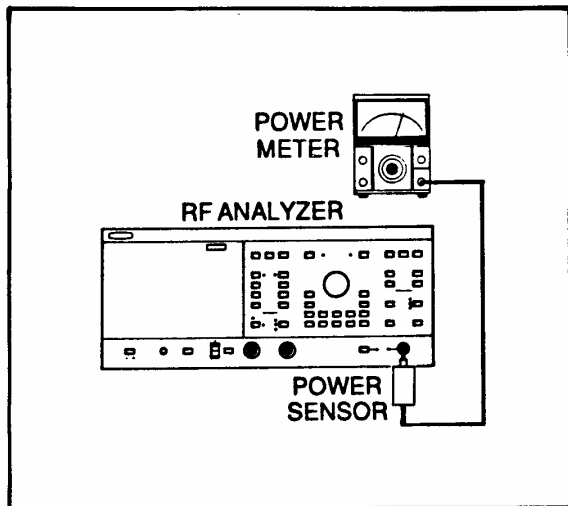

Figure 6-7. ALC Power Calibration Test Setup
7. Connect the power meter to the output of the RF Analyzer as shown in Figure 6-7.